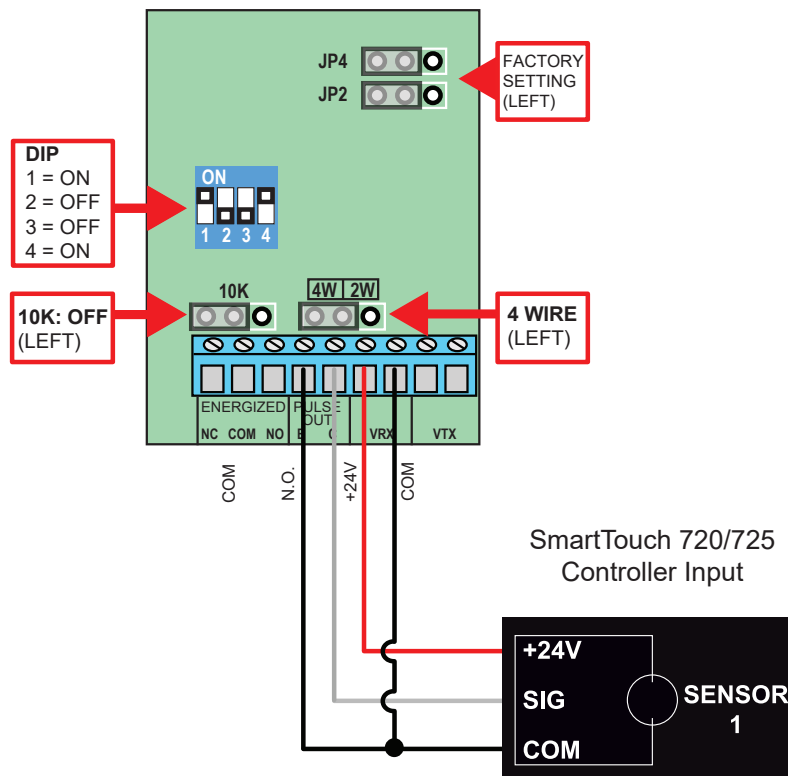

Figure 31. EMX IRB-RET Wiring - 10K OHM Resistive (Top) and 4-Wire Pulsed (Bottom)
5. Install the wires between the TX and RX and then into BlueBUS terminals on the SmartTouch 725 Controller (Figure 31).
NOTE: Set board as shown in red boxes per Figure 31. Jumpers are three pin type, and placed LEFT or RIGHT as indicated.